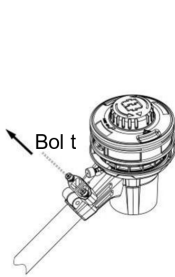

Fig. 5A
1. Loosen the two bolts in the guard, remove the bolts with washers from the guard.(Fig.5A)